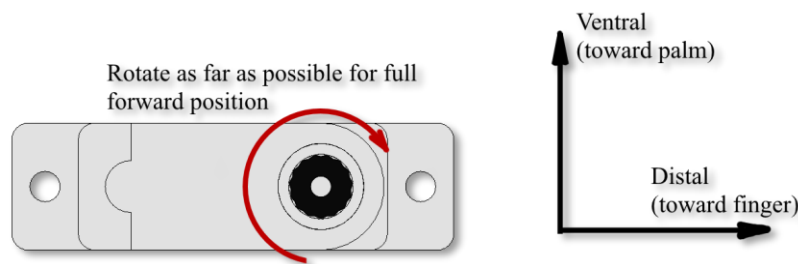
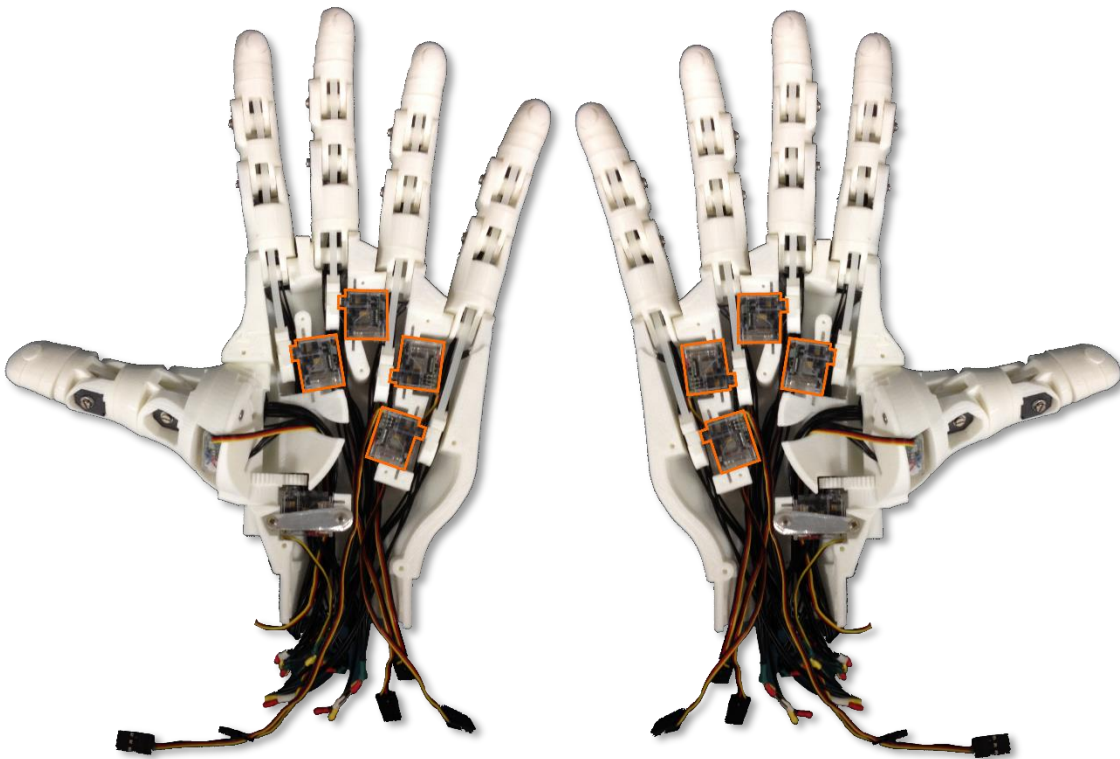

Figure 16: Full Forward Position of servo
Figure 20: Servo installation and finger tensioning complete, showing servo positions for right and left hand
1. Rotate servo to the full forward position using the Arduino sketch Pot_to_Servo_Control.ino. Wiring for this sketch is explained in section 13.1 . See Figure 16 for the definition of full forward position. Servo orientation matters for this operation, and changes depending on the finger in question. Refer to Figure 20 for correct servo positioning.
6. Pass the tendon zip-tie through the zip-tie receiver on the servo spool (or through the spool itself in the case of the thumb spool). There should be no slack in the zip-tie when the finger is fully extended, the servo is fully rotated forward, and the servo is installed in the dorsal palm. Trim the free end of the tendon zip-tie. Figure 20 shows the completed tensioning and servo installation.